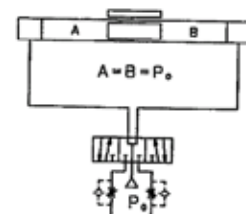

Fig.5 Change of the position of the speed controller
3. Place the speed controller (restrictor) on the back of the valve to apply the back pressure to the air released to atmospheric pressure. (See Fig.5)